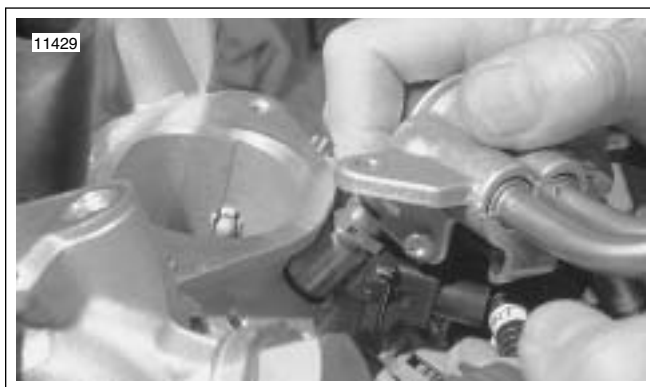

Figure 3-15. Front Injector
8. See Figure 3-15. Pull front injector from front intake runner.